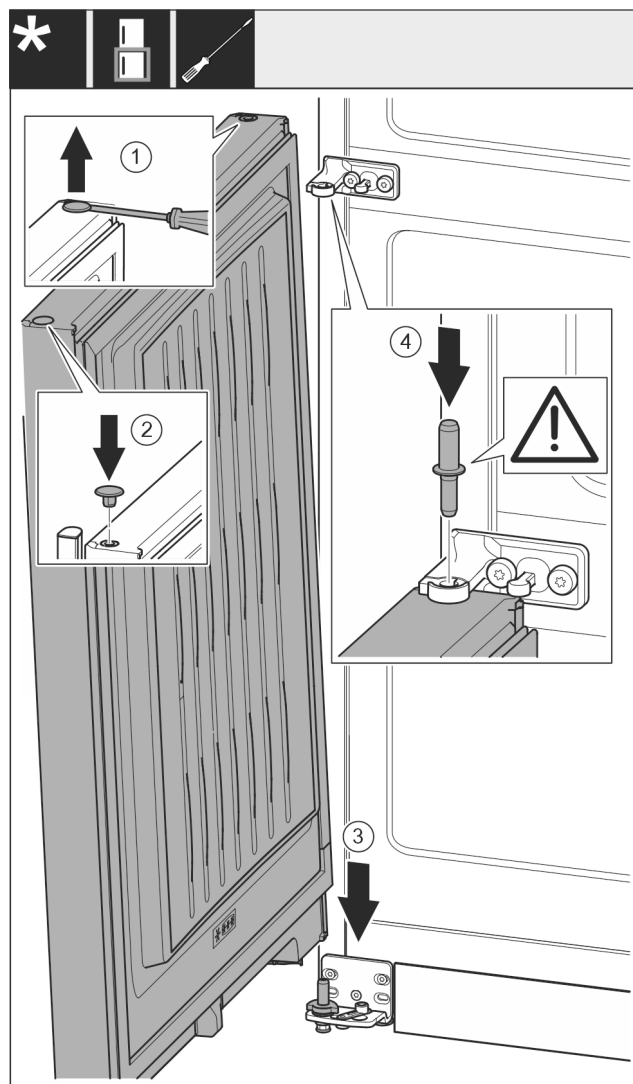

Fig. 21
- Use a slotted screwdriver to lift the plug Fig. 21 (1) carefully and pull it out.
- Re-insert the plug Fig. 21 (2) on the other door side.
- Lower the door Fig. 21 (3) onto the bottom bearing bolt.
- Insert the centre bearing bolt Fig. 21 (4) through the centre bearing block in the lower door. Ensure that the latching cam is pointing towards the rear.